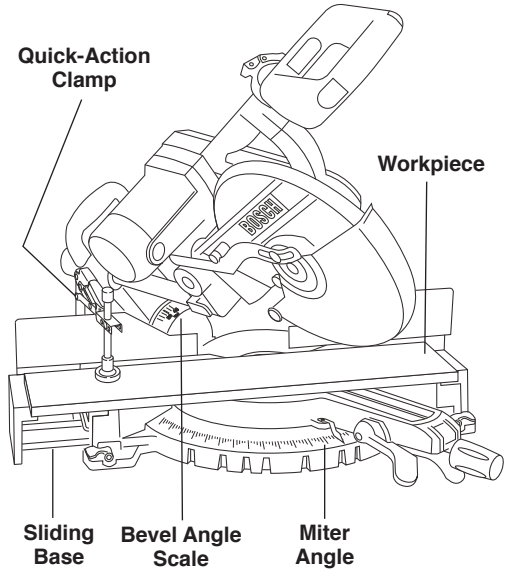

Figure 35. Compound Cut
2. Properly position workpiece. Make sure workpiece is clamped firmly against the table or the fence (Figure 35).